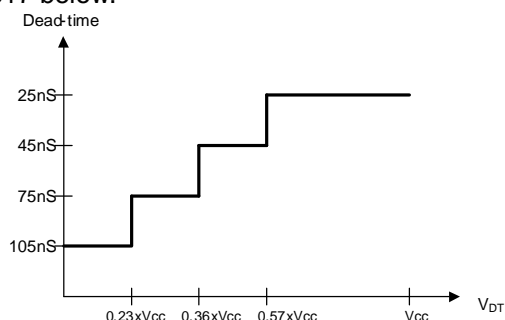

Figure 17 Dead Time vs. V_{DT}
The IRS2092(S) selects the dead-time from a range of preset dead-time values based on the voltage applied at the DT pin. An internal comparator translates the DT input to a predetermined dead-time by comparing the input with internal reference voltages. These internal reference voltages are set in the IC through a resistive voltage divider using V_{CC} . The relationship between the operation mode and the voltage at DT pin is illustrated in the Figure17 below.